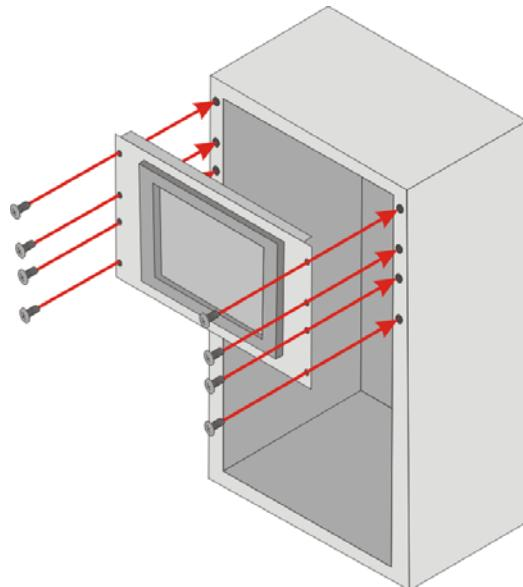

Figure 3-22: Install into a Rack/Cabinet
Step 5: Slide the PPC-F08B/F10B-BT with the attached rack/cabinet bracket into a rack or cabinet (**Figure 3-22**).
Step 6: Once the flat panel PC with the attached rack/cabinet bracket has been properly inserted into the rack or cabinet, secure the front of the rack/cabinet bracket to the front of the rack or cabinet (**Figure 3-22**).